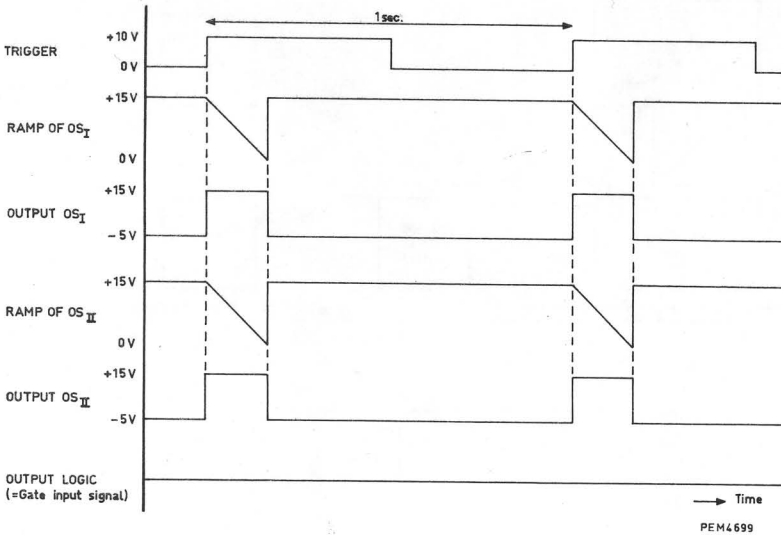

Fig. 4a
- Fig. 4a. Pulse diagram of the ADC, with the input socket connected to "O"
The squarewave pulses of both multivibrators are fed into a logic circuit, which detects the difference in pulse width of the two signals. Consequently, the squarewave pulse leaving the logic circuit will be proportional to the value of the voltage, current or resistance, applied to the input of the instrument, see Figs. 4a, b and c.
When short-circuiting the input, the ramp of both multivibrators will have the same slope (adjustable with "ZERO"), and there will be no difference in pulse width (see Fig. 4a).